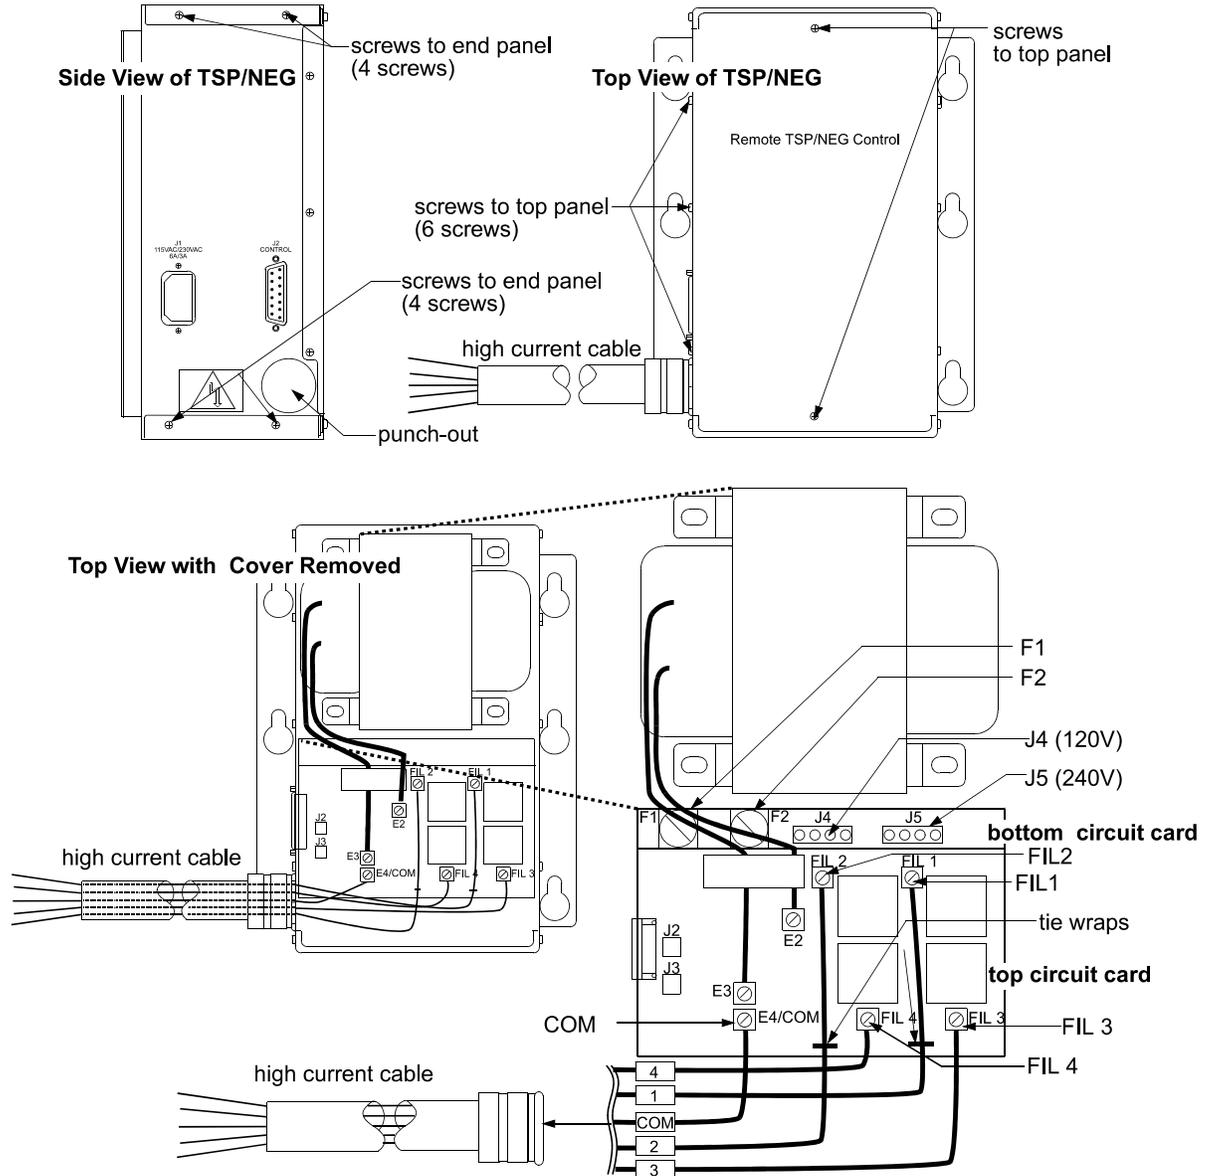

Figure IV-8. Remote TSP/NEG Control — Location of Components.
To change input voltage on the Remote TSP/NEG, you need to access the bottom circuit card inside the unit. Refer to Figure IV-8 for its location.
3. On the bottom circuit card (Figure IV-8), pull out the input voltage connector and reconnect it to appropriate voltage:
2. Tap the punch-out on the end panel to make a hole for the high current cable connector (Figure IV-8). Install the cable connector.
3. On the top circuit card, connect high current cable wires 1 and 2 to FIL 1 and FIL 2, respectively. Install tie wraps to these wires. See Figure IV-8.